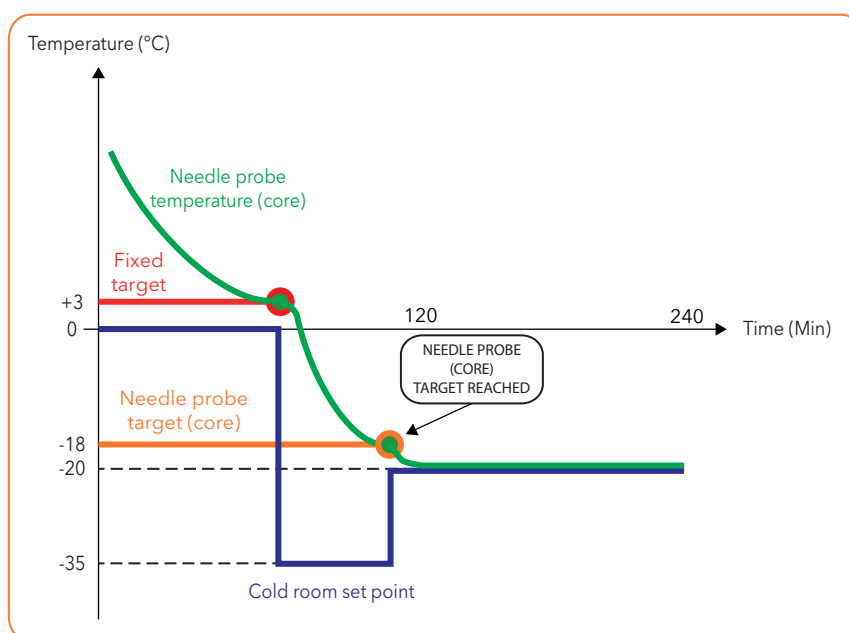

Fig. 13. Negative program with soft blast chill mode
- negative (freezing), with negative reference temperature (target temperature), and soft blast chill mode (**Fig. 13 on page 22**).
The numeric values shown in **Fig. 13 on page 22** are the default values.